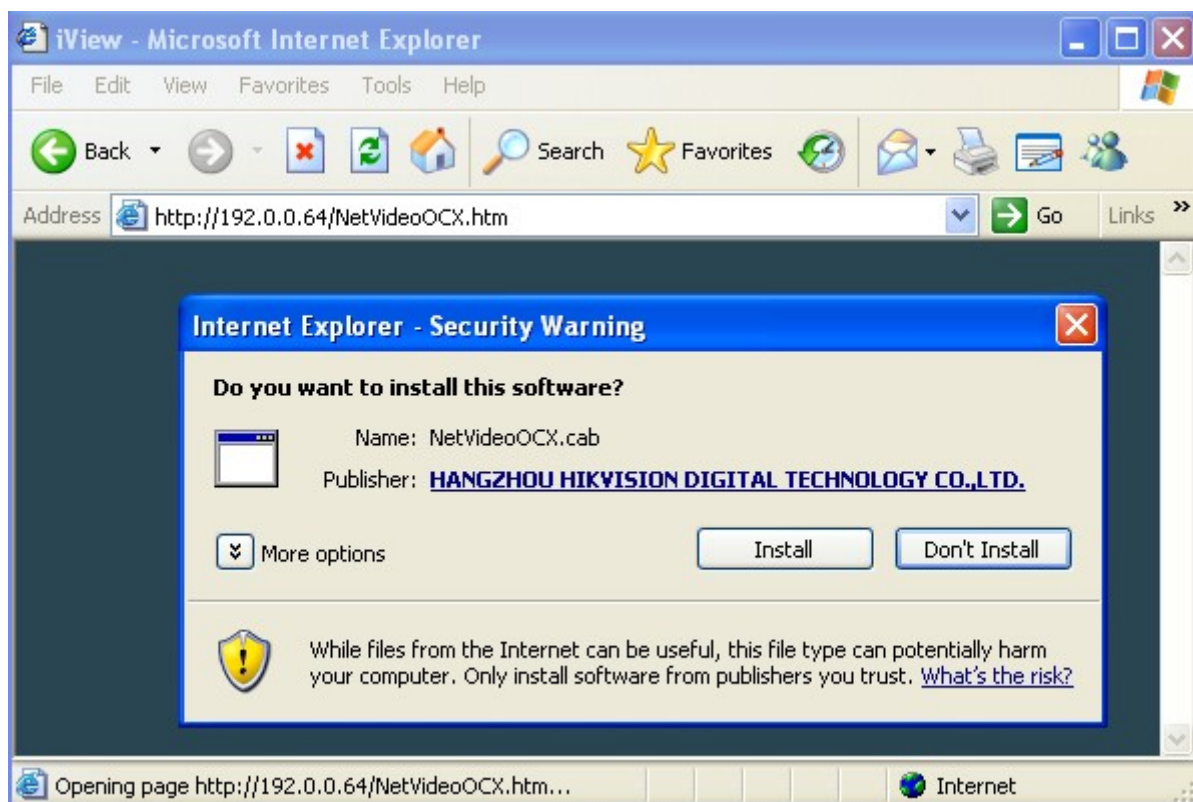

Figure 4.1.1
The system will display the warning message as shown in Figure 4.1.1.
**Note:** If the ActiveX control installation is blocked by the related software in PC, the following warning message will appear, as show in Figure 4.1.1. Click Yes to install the ActiveX control.